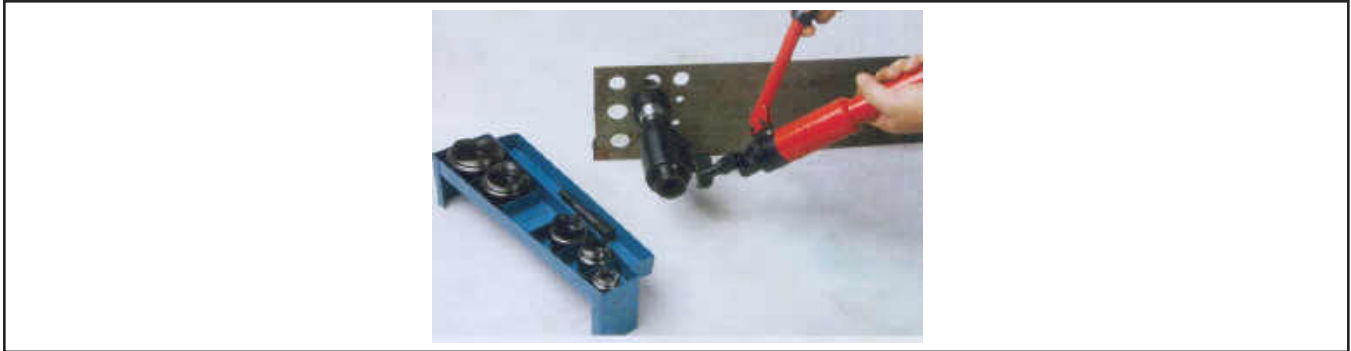

Figure 3 - Typical Knock-Out Punch Tool
- 1.7. Once the switch has been removed, it is necessary to enlarge the hole on which it was installed. The most appropriate tool to accomplish this task is a knock-out punch tool. See Figure 3.